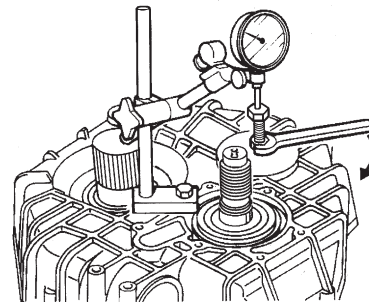

FIG. 5-5b
- Adjust the dial indicator needle on top of the bolt head and «O» to dial indicator (Fig. 5-5b).
- Screw hexagon nut carefully against housing (intermediate shaft moves up) until bearing clearance is overcome (Fig. 5-5b).